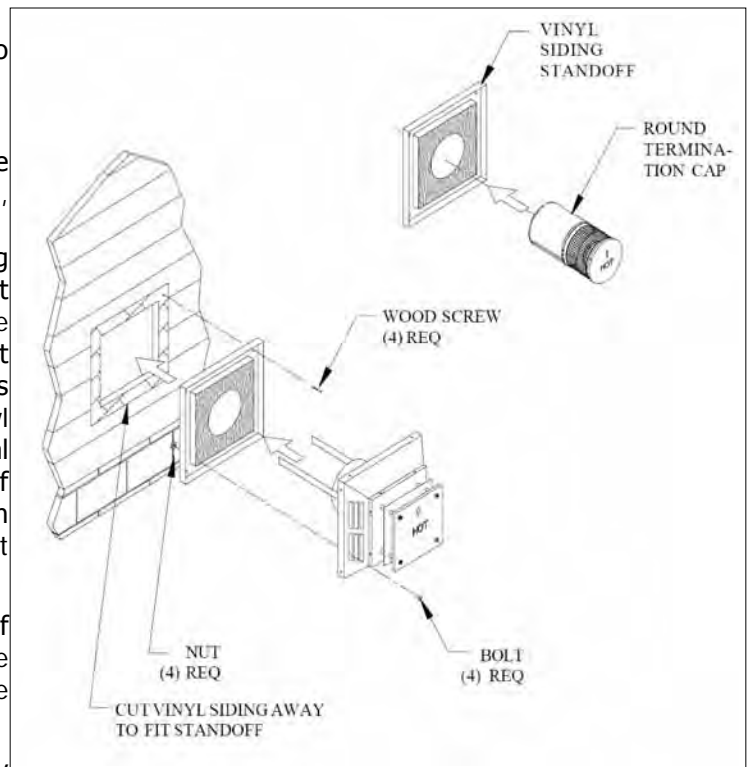

Figure 37: Installation of Vinyl Siding Standoff.
- (1) The four (4) wood screws provided should be replaced with appropriate fasteners for stucco, brick, concrete, or other types of sidings.
- (2) For buildings with vinyl siding, a Vinyl Siding Standoff should be installed between the vent cap and the wall (see Figure 37). Attach the Vinyl Siding Standoff to the Horizontal Vent Termination. The Vinyl Siding Standoff prevents excessive heat from possibly melting the vinyl siding material. Note that the Square Horizontal Vent Termination bolts onto the flat portion of the Vinyl Siding Standoff, (Shaded area shown in Figure 37), so that an air space will exist between the wall and the Vent Termination.